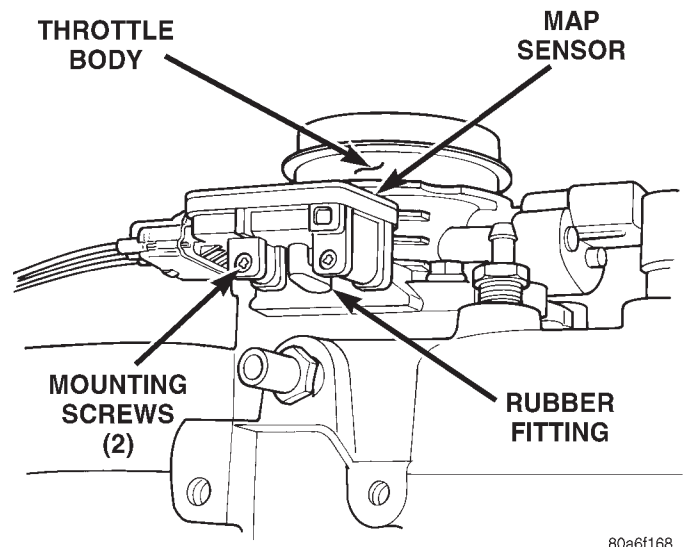

Fig. 28 Rubber L-Shaped Fitting—MAP Sensor-to-Throttle Body
- (1) Inspect rubber L-shaped fitting from MAP sensor to throttle body (Fig. 28). Repair as necessary.